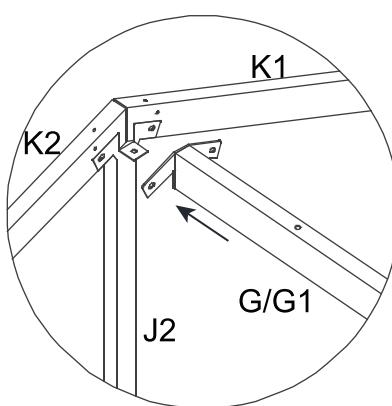

Figure 8.3
8.3 Connect the Middle Support bar (G/G1) with the Bilateral Cant Beam (K1/K2) , fix them with Bolts (AA) and Washers (HH) . See Figure 8.3.